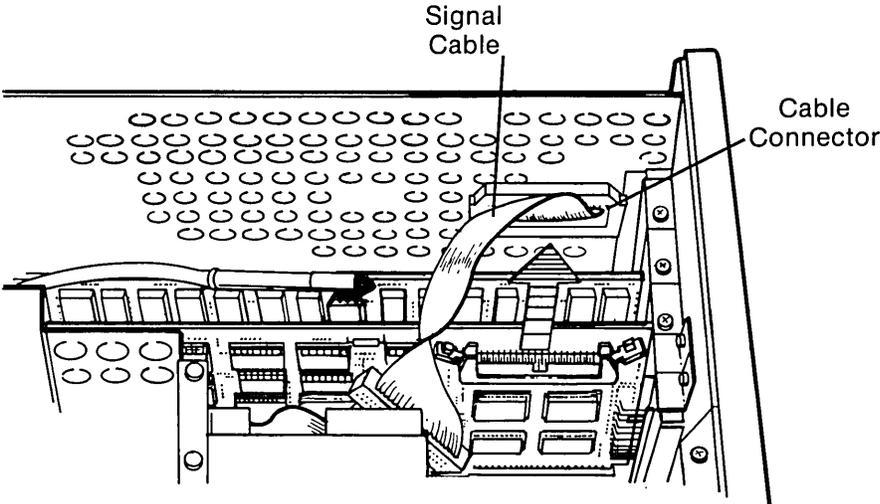

Figure 8-11. Disconnecting the Signal Cable From the Floppy/Printer Adapter Board.
- 4 Disconnect the disk drive cable from the floppy/printer adapter board by pressing on the finger tabs located on either side of the connectors (see Figure 8-11).